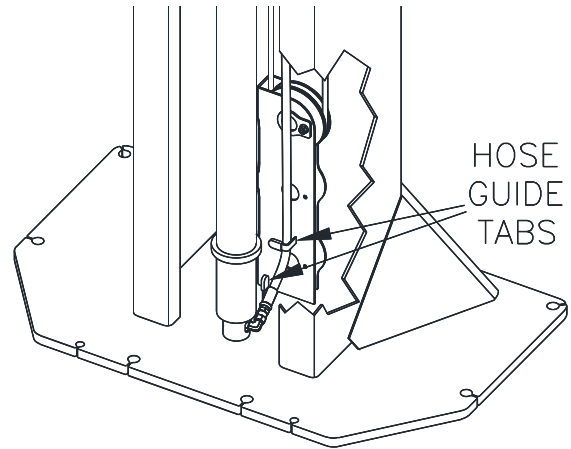

Fig. 15-Hose Connection
- 45) Each column hose should connect to its cylinder with a 90 degree elbow rotated up from horizontal and be routed thru the Hose Guide Tabs as shown in Fig. 15.